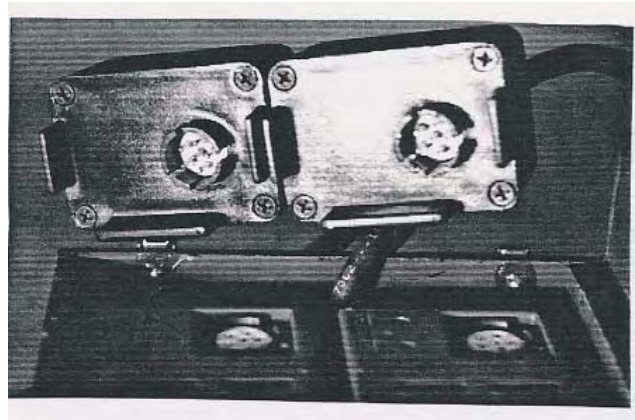

Figure 16. MCH-100 Battery Connection
- b. Push fit the battery connector onto the batteries. It fits only one way. Figures 16 and 17.